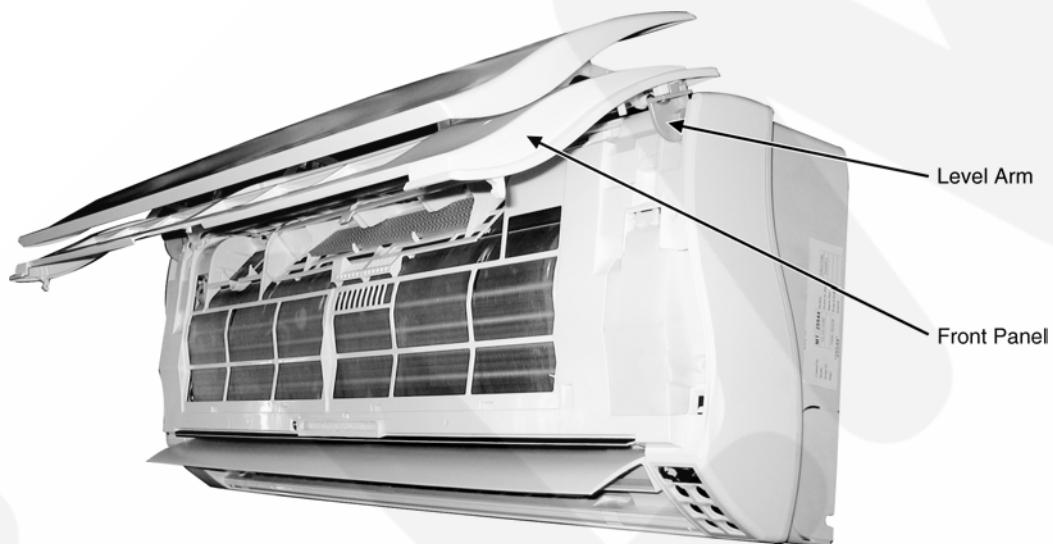

Fig. 2
2. Remove the front panel by pressing Lever Arm with finger. (Fig.2)